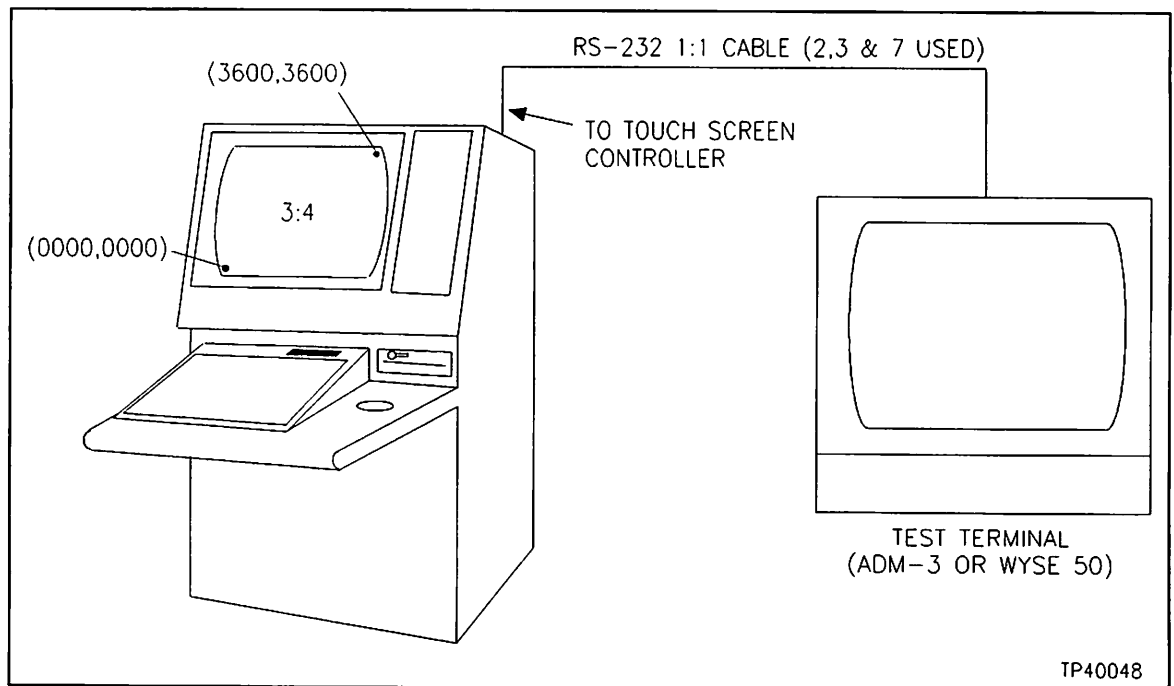
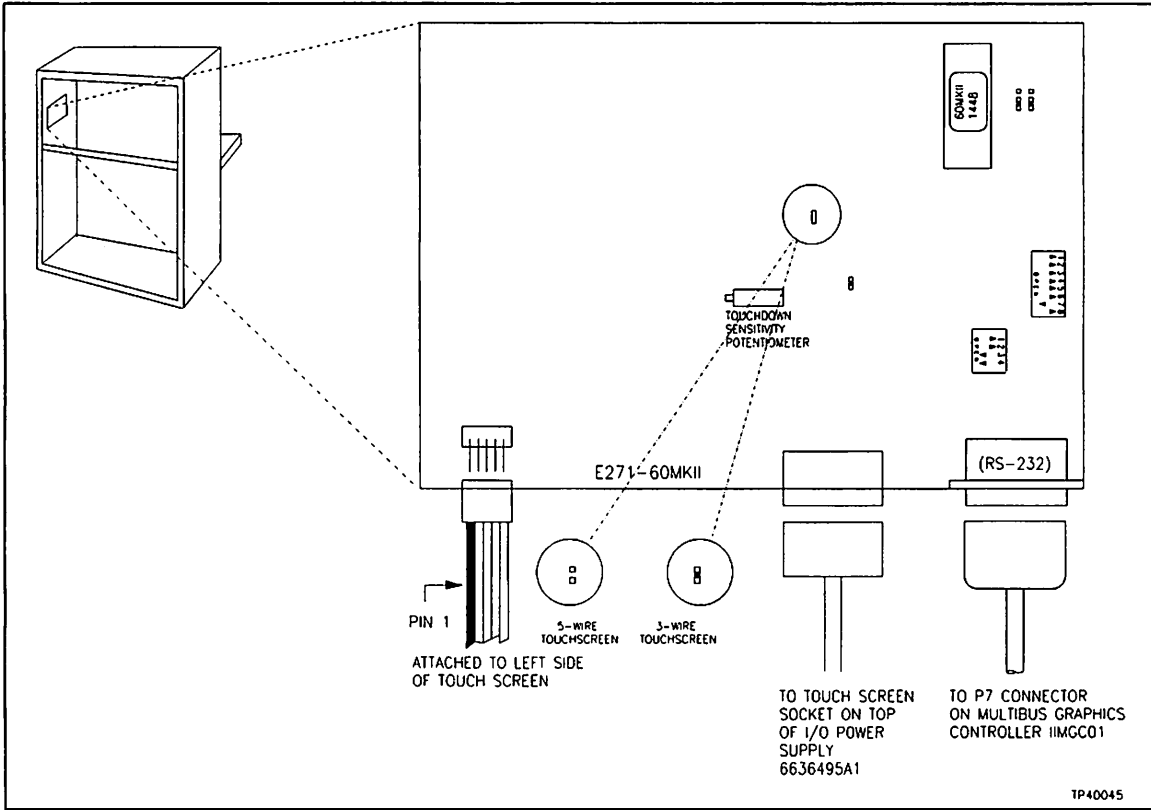
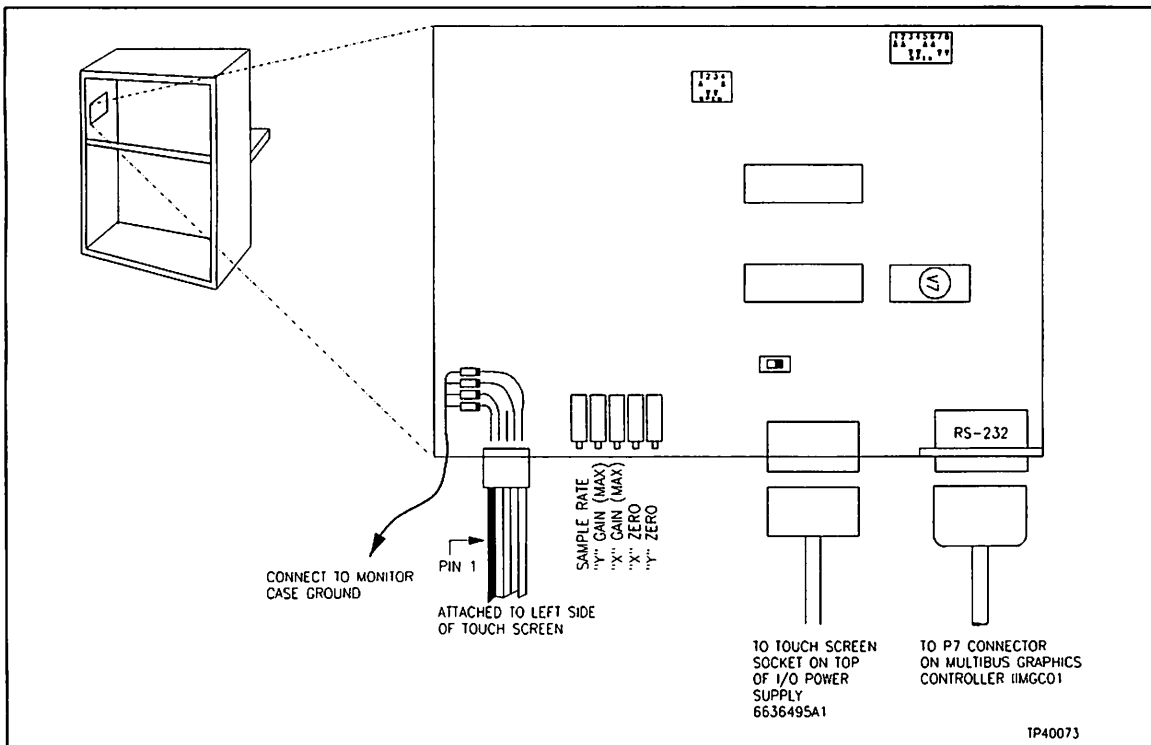

Figure 4-34. Manual Touch Screen Calibration
Figure 4-35. Touch Screen Controller Card - I.D. Number E271-60MKII
Figure 4-36. Touch Screen Controller Card - I.D. Number E271-60
See Figure 4-34 for connecting the touch screen controller board. See Figure 4-35 for dipswitch settings and wiring connections of controller I.D. number E217-60MKII, and Figure 4-36 for controller I.D. number E271-60.
If connecting a three wire touch screen to a five contact touch screen controller board, plug the touch screen connector onto the center three pins. If the controller card is the Bailey P/N 1948027\_2 (I.D. Number E271-60MKII), a jumper is required on two pins located at the center of the board (Figure 4-36).
To calibrate, a terminal must be attached as shown in Figure 4-34. Set a serial communications terminal to 600 baud, eight data bits, one stop bit for the E271-60MKII or 9600 baud, eight data bits, one stop bit for the E271-60. The terminal must be set for full duplex (not block mode). Connect the terminal to the RS232-C connection on the touch screen controller board (Figure 4-35). Follow the instructions on the following pages for the touch screen controller board in use.
1. When the controller is sent the proper command, two 4-digit values representing the X and Y coordinates where the screen was touched will be displayed on the terminal. If the controller was retrofit to a three wire touch screen, these values may either not display or may display twice for each touch of the screen. If this is the case, the touchdown sensitivity potentiometer should be adjusted. The touchdown sensitivity potentiometer is on the touch screen controller board, and is shown in Figure 4-35.